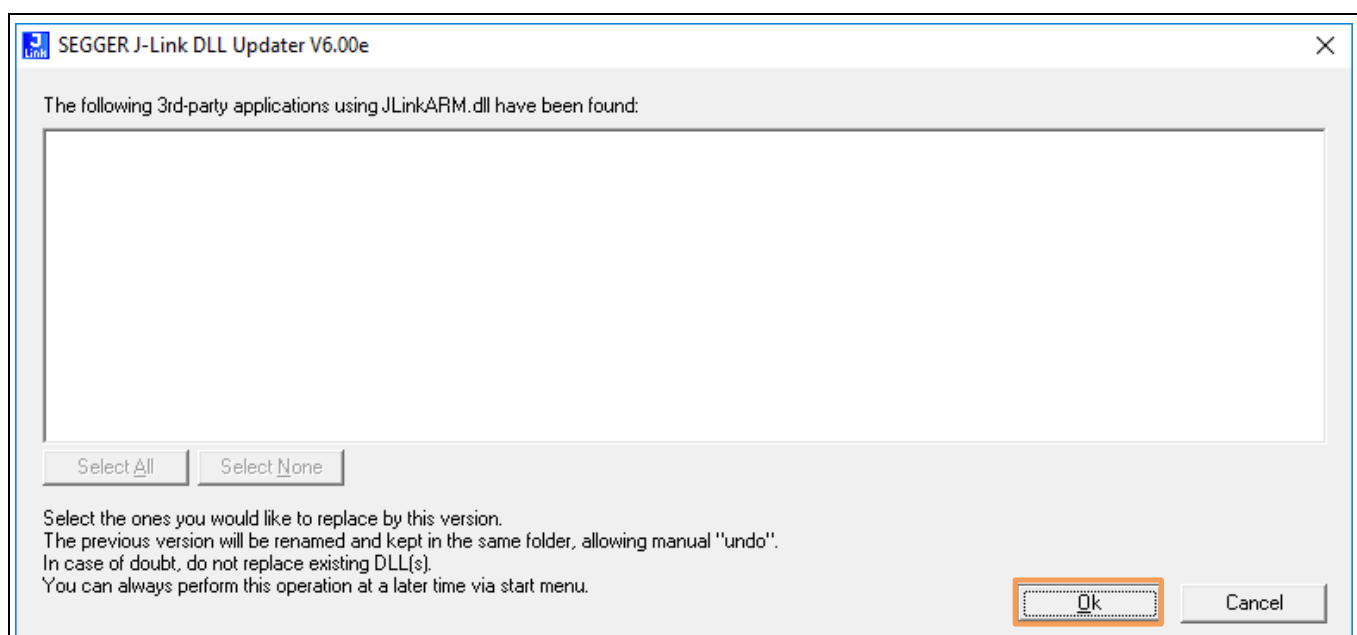

Figure 31 SEGGER JLINK Drivers – End of Installation
- Click **“Ok”** button to complete the Jlink driver installation which has shown in the below Figure 31.